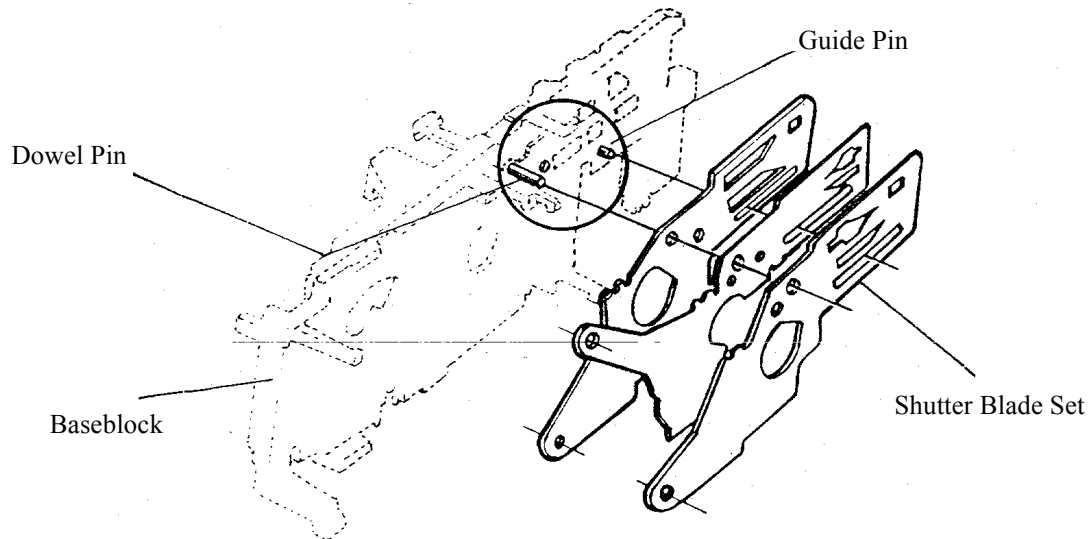

Figure 4-19d Reassembling Shutter Blades
- a. With Shutter Baseblobk empty except for metal dowel pin in upper left hole above lens opening, replace bottom Shutter Blade with tweezers. (wear finger cots when handling Blades.) Align upper left hole in bottom Blade with dowel pin and lower elongated slot in Blade with plastic guide pin (see Figure 4-19d).